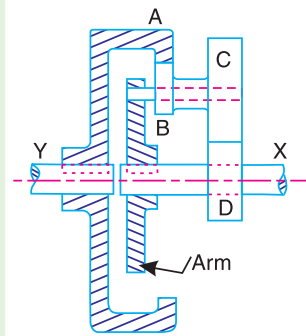

Fig. 13.29
**Example 13.22.** An over drive for a vehicle consists of an epicyclic gear train, as shown in Fig. 13.29, with compound planets B-C. B has 15 teeth and meshes with an annulus A which has 60 teeth. C has 20 teeth and meshes with the sunwheel D which is fixed. The annulus is keyed to the propeller shaft Y which rotates at 740 rad/s. The spider which carries the pins upon which the planets revolve, is driven directly from main gear box by shaft X, this shaft being relatively free to rotate with respect to wheel D. Find the speed of shaft X, when all the teeth have the same module.
First of all, let us find the number of teeth on the sunwheel D ( $T_D$ ). Let  $d_A$ ,  $d_B$ ,  $d_C$  and  $d_D$  be the pitch circle diameters of wheels A, B, C and D respectively. From Fig. 13.29,